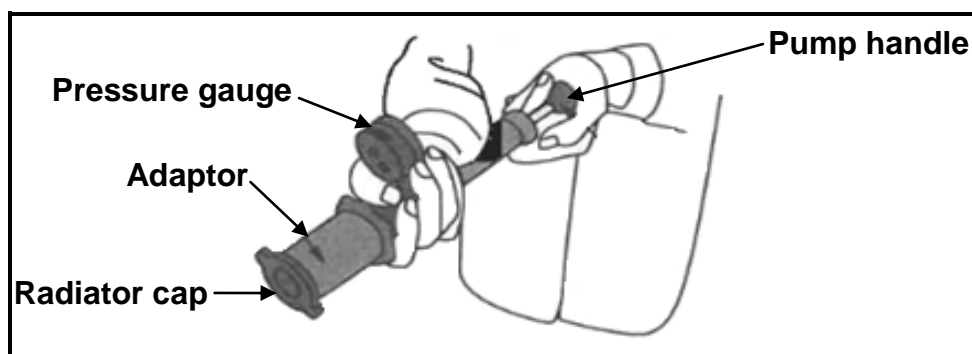

FIGURE 4.8
4.8 What type of test is conducted with the equipment shown in FIGURE 4.8?